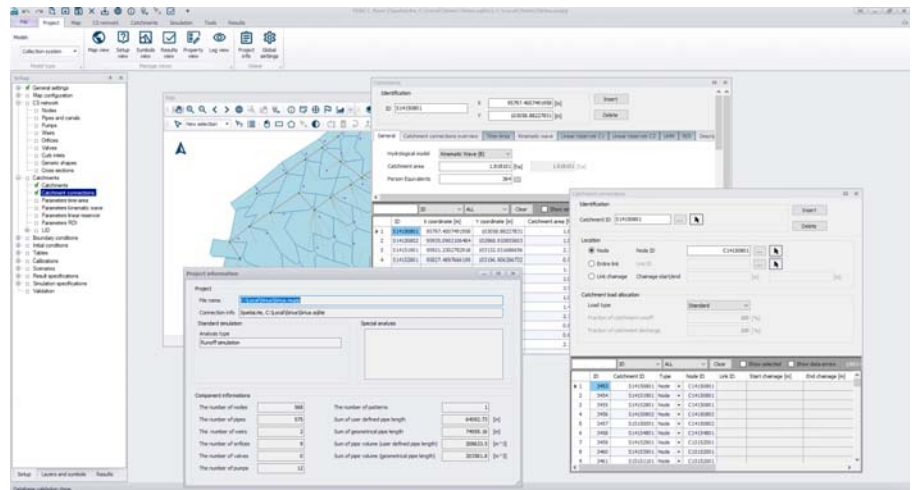

Figure 2.4 MIKE+ GUI with "floating" editors
- When "Floated", editors are displayed in a stack, with the active editor on top. This shown in Figure 2.4.